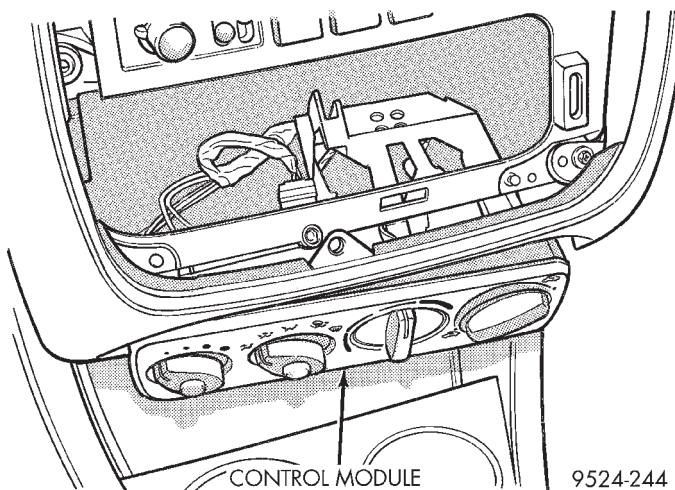

Fig. 31 Control Module At Bezel Opening
(4) Pry up the cluster hood bezel a few inches to expose the cubby bin/cigar lighter bezel screws.
(5) Remove the cubby bin/cigar lighter bezel and wiring.
(6) Remove the control module retaining screws.
(7) Drop the A/C control module into the cigar lighter/cubby bin bezel opening (Fig. 31). Then disconnect the wiring on the rear of the control module.